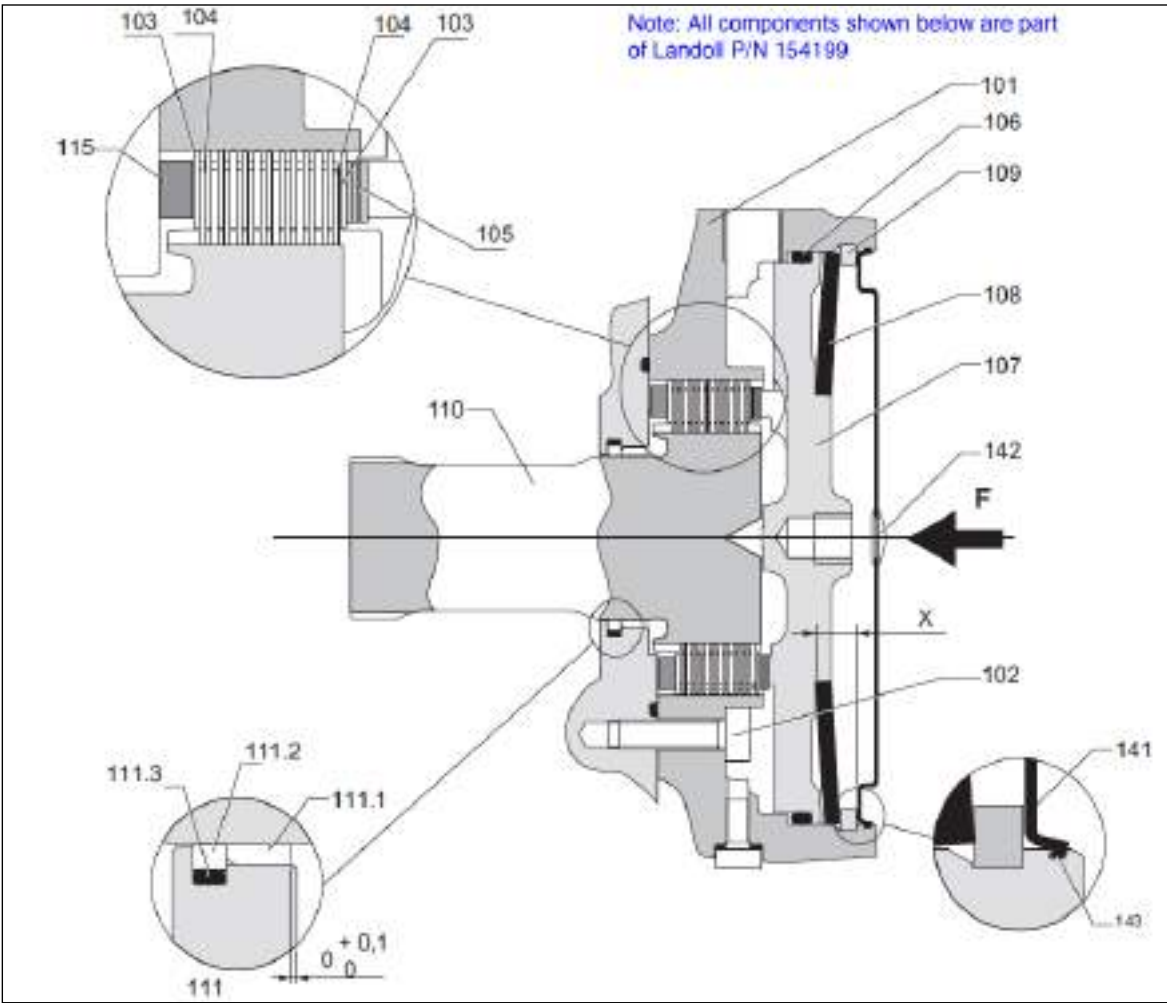

Figure 3-50: Install New Shims
18. Install the torque reduction shims, item 115, according to the version. See Figure 3-50.
28. Calculate the shimming, item 105, value(measured travel) in order to control the stroke of .034" (.87mm). **See Figure 3-50.**
29. Reapply the compressive force to remove the snap ring, item 109.